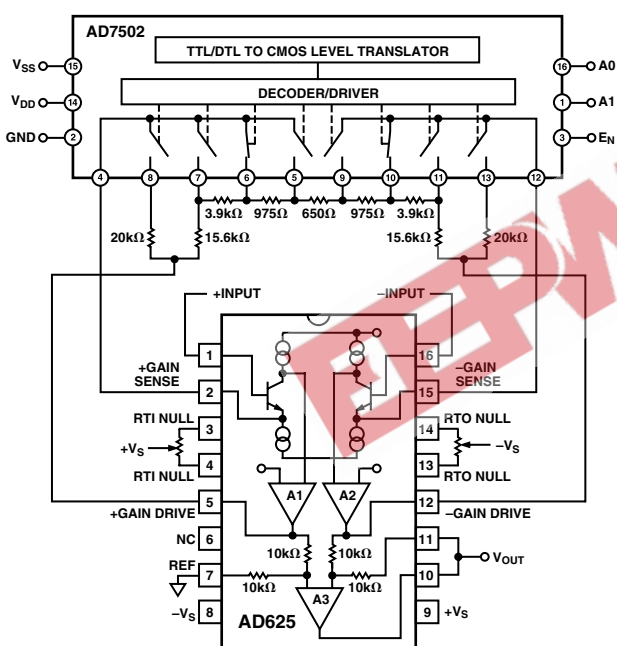

Figure 38. SPGA in a Gain of 16
Figure 38 shows an AD625 based SPGA with possible gains of 1, 4, 16, 64. R_G equals the resistance between the gain sense lines (Pins 2 and 15) of the AD625. In Figure 38, R_G equals the sum of the two 975 Ω resistors and the 650 Ω resistor, or 2600 Ω . R_F equals the resistance between the gain sense and the gain drive pins (Pins 12 and 15, or Pins 2 and 5), that is R_F equals the 15.6 k Ω resistor plus the 3.9 k Ω resistor, or 19.5 k Ω . The gain, therefore equals:
can be used to calculate the necessary feedback resistors for any set of gains. This formula yields a network with a total resistance of 40 kΩ. A dummy variable (j) serves as a counter to keep a running total of the preceding feedback resistors. To illustrate how the formula can be applied, an example similar to the calculation used for the resistor network in Figure 38 is examined below.
- 2) Before making any calculations it is advised to draw a resistor network similar to the network in Figure 41. The network will have $(2 \times M) + 1$ resistors, where M = number of gains. For Figure 38 $M = 3$ (4, 16, 64), therefore, the resistor string will have seven resistors (plus the two 20 kΩ “side” resistors for unity gain).
- 5) If different resistor values are desired, all the resistors in the network can be scaled by some convenient factor. However, raising the impedance will increase the RTO errors, lowering the total network resistance below 20 kΩ can result in amplifier instability. More information on this phenomenon is given in the RPGA section of the data sheet. The scale factor will not affect the unity gain feedback resistors. The resistor network in Figure 38 has a scaling factor of $650/625 = 1.04$, if this factor is used on R_{F_1} , R_{F_2} , R_{F_3} , and R_G , then the resistor values will match exactly.